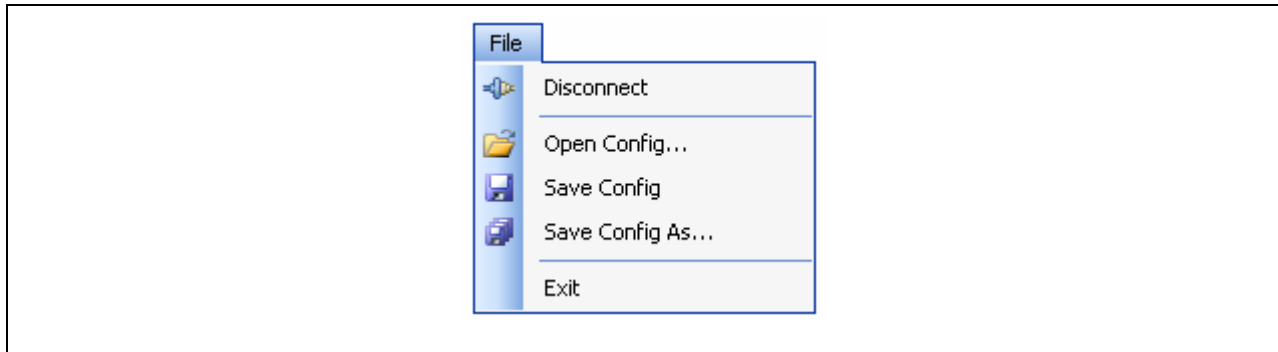

Figure 4: File Menu Options
3. The SX1231SKB should connect automatically to the User Interface Software. If not, click on the USB connect button, located in the top left hand corner of the window toolbar, as illustrated in Figure 4, below